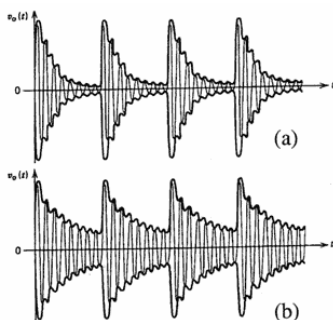

Fig.2. SSB waveforms: (a) unprocessed speech (the repeated word "three") with 16dB peak-to-average ratio; (b) the same word with 6dB of compression
Figure 2 — Here is a plot of the transfer function (T) of a pi network. The design frequency for this example was 1 MHz. T is normalized to 0 dB at the design frequency.